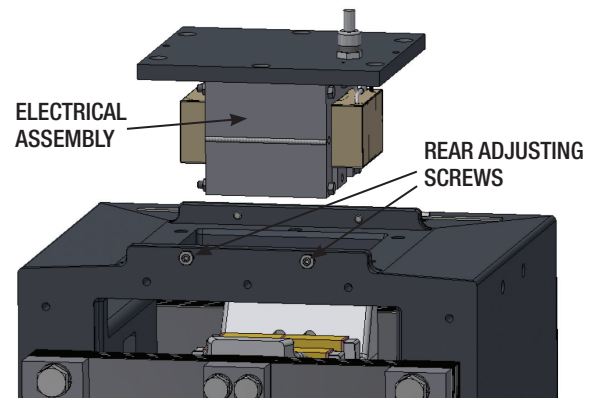

Figure 9 - Electrical Assembly Removal
3. Pry and lift the electrical assembly from the body casing, using a sling or some other safe method of lifting. (See Figure 9).